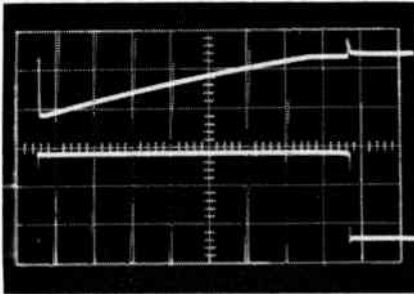

Figure 7. Upper curve — charging waveform at point 'C', lower curve — output waveform at point 'D'. Grid calibration: 10 μ S/div., 5 volts/div.
In Figure 7 the upper waveform is the same as in Figure 6(a), only different scope sensitivity are involved and the lower waveform is the output voltage (D) at the collector of Q_2 . The small rounding off at the upper right corner of the waveform shows the collector of Q_2 coming out of saturation just prior to regeneration and reset.